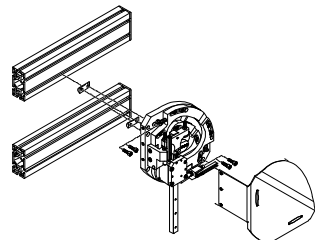

Fig. 8
- Fastening to the rear of the sub-base with slot nuts HMBN-8 to profile columns HMBS (example: Fig. 8).